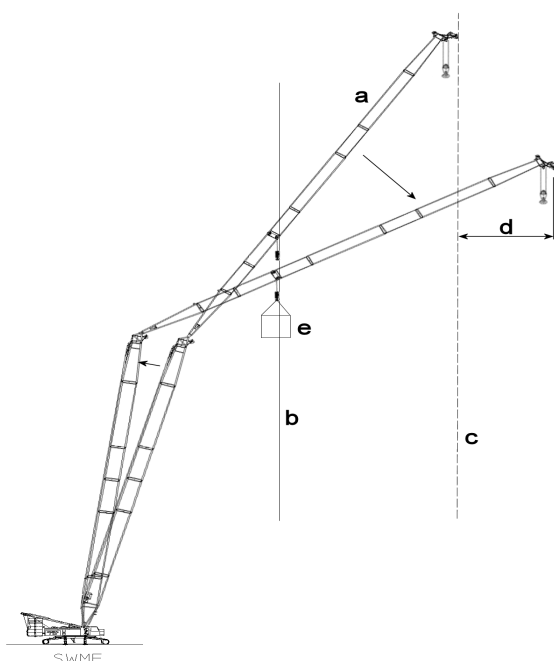
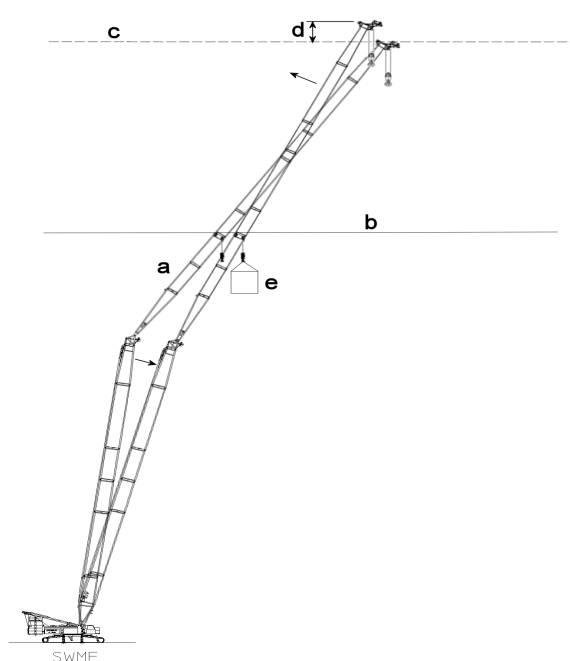

Fig. 1 Radius limitation
Fig. 2 Pulley head height limitation
- a** Starting position of jib system for which the radius limitation (Fig. 1) or the pulley head height limitation (Fig. 2) has been programmed in relation to the mid-fall pulley head.